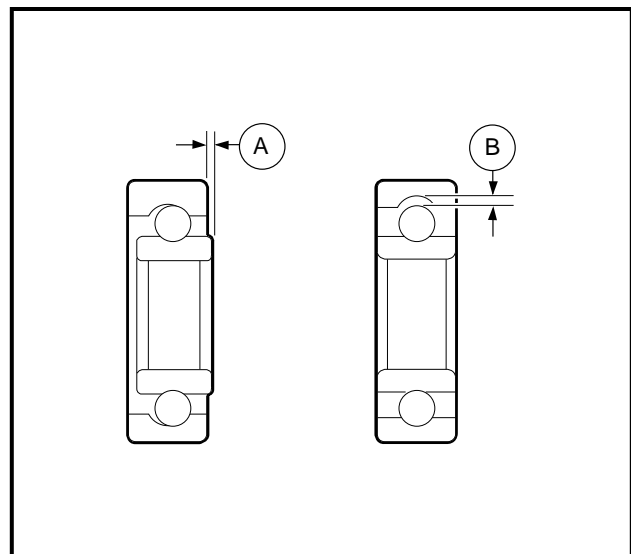

Figure 16-52 Inspect Bearings
2. Inspect all bearings by spinning them by hand. Check the bearings for excessive axial (A) and radial (B) play (Figure 16-52, Page 16-23). Replace bearings if they do not spin smoothly, if they are noisy, or if they have excessive play. Replace bearings if they are rusted, worn, cracked, pitted, or discolored.